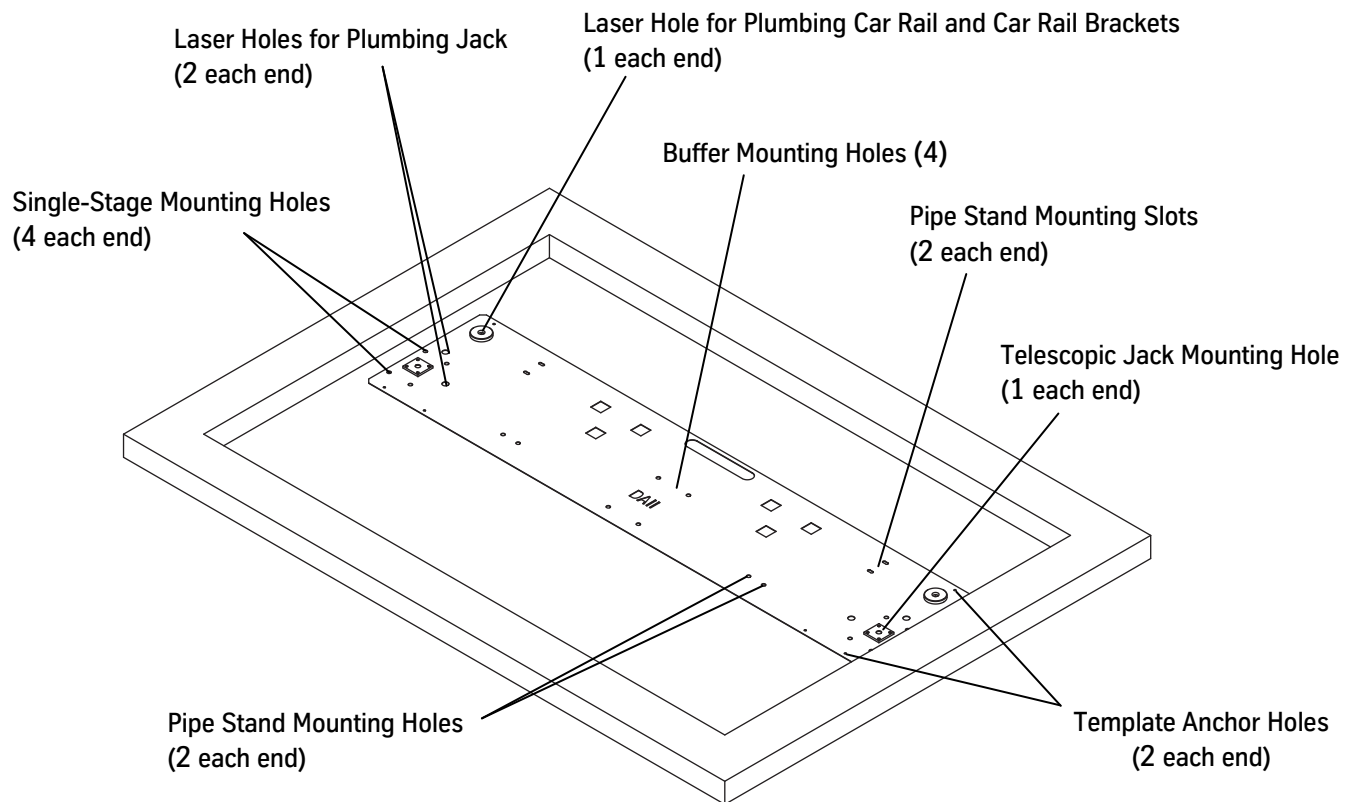

Figure 23 - Pit Template
3. Place the pit template on the pit floor, and position it per the layout. See Figure 23.